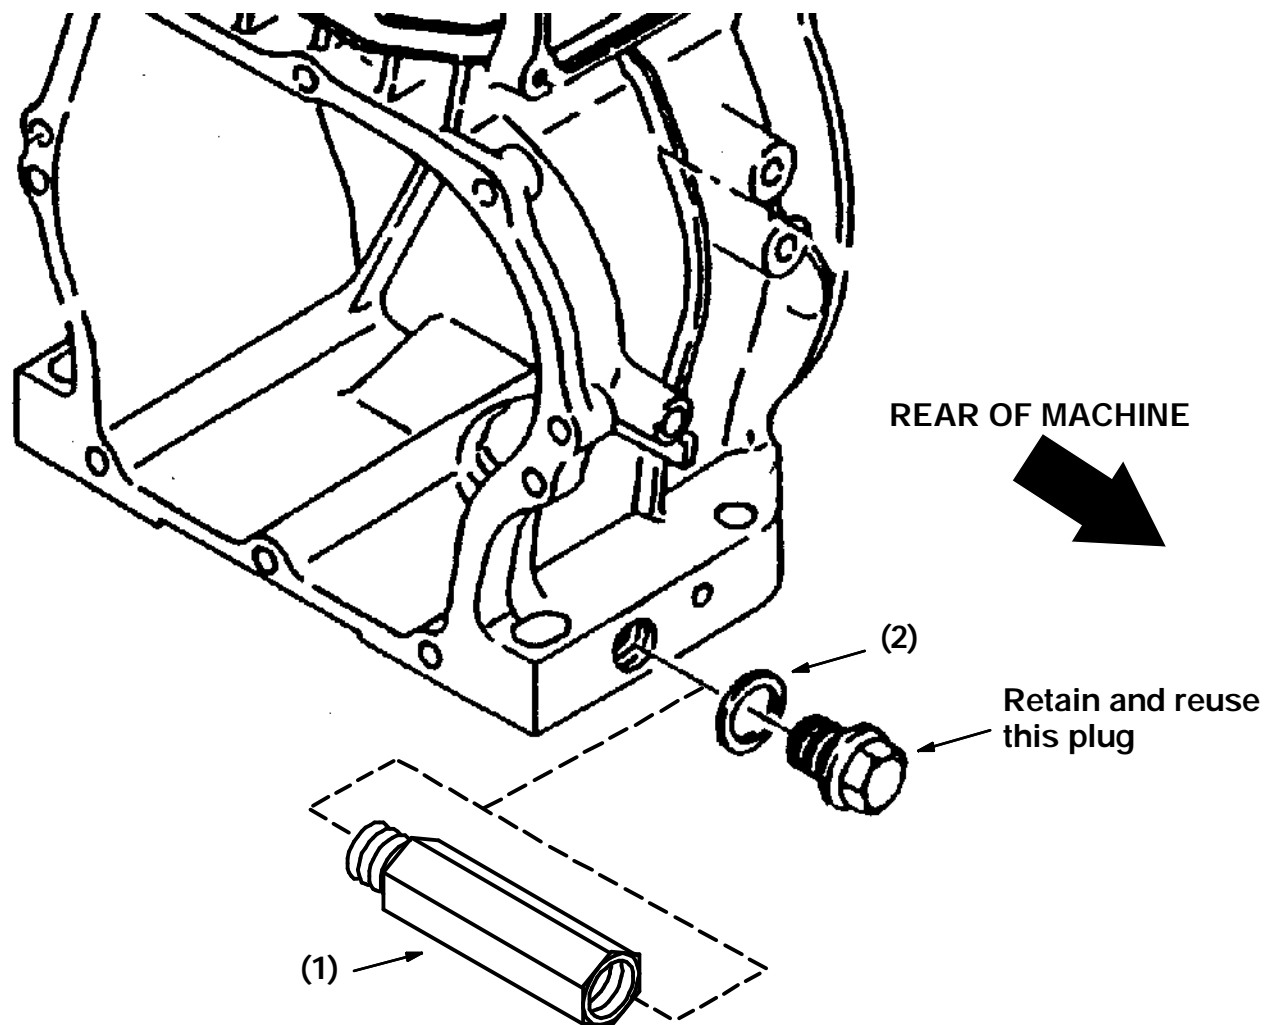

FIG. 1 - Installation Of Drain Tube
(Refer to FIG. 1)
3. Place a drain pan under the drain plug. (Refer to FIG. 1)
4. Remove and retain the engine drain plug. Let the oil drain into the pan. (Refer to FIG. 1)
5. Install one of the sealing washers (2) onto the oil drain tube (1). (Refer to FIG. 1)
6. Install the oil drain tube (1) in the engine where the drain plug was removed. Use a 14 mm wrench. (Refer to FIG. 1)
7. Install the existing drain plug and the second sealing washer (2) in the end of the oil drain tube (1). (Refer to FIG. 1)